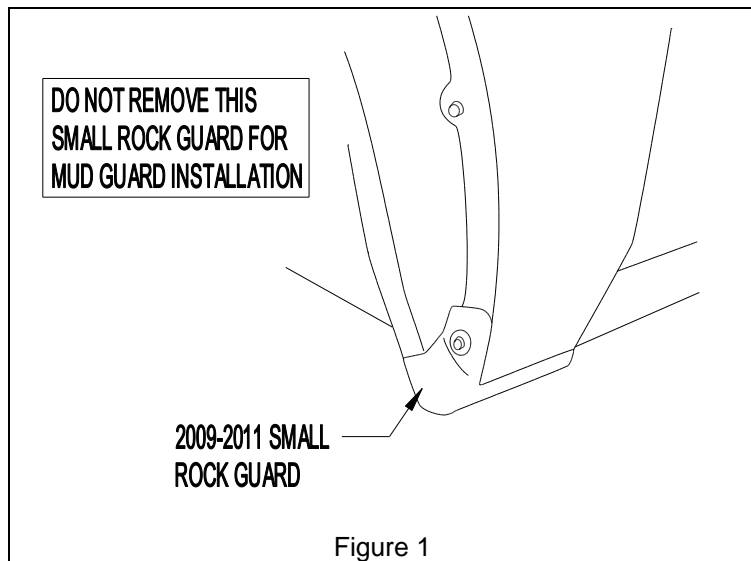
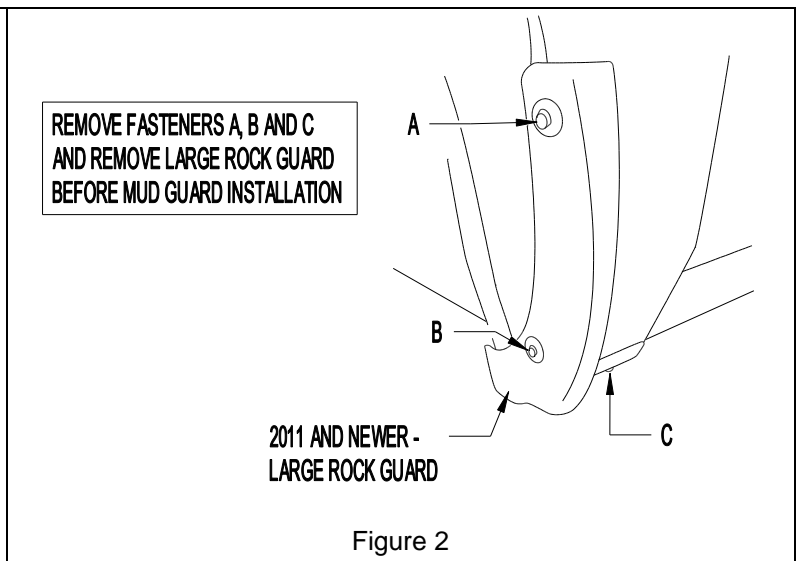

Figure 1
Figure 2
FIGURE 1: If you have the "small rock guard" as shown in Figure 1., simply leave the rock guard in place. Next, follow the paint protection film instructions and then the mud guard installation instructions.
FIGURE 2: If you have a 2011 or newer Dodge Ram with the "large rock guard" as shown in Figure 2, remove fasteners A, B, and C, and remove the "large rock guard" (Figure 3). After removal of the "large rock guard" reinstall fastener C. Then proceed with the paint protection film instructions followed by the mud guard installation instructions.
1. If you have the "large rock" shown in Figure 2, remove the large rock guard before you install the paint protection film. If you have the small rock guard shown in Figure 1, leave the small rock guard in place and proceed with the paint protection film installation as shown.
FIGURE 1: If you have the “small rock guard” as shown in Figure 1., simply leave the rock guard in place. Next, follow the paint protection film instructions and then the mud guard installation instructions.
FIGURE 2: If you have a 2011 or newer Dodge Ram with the “large rock guard” as shown in Figure 2, remove fasteners A, B, C, and D, and remove the “large rock guard” (Figure 3). After removal of the “large rock guard” reinstall fastener C. Then proceed with the paint protection film instructions followed by the mud guard installation instructions.
1. If you have the "large rock" shown in Figure 2, remove the large rock guard before you install the paint protection film as shown in Figure 5. If you have the small rock guard shown in Figure 1, leave the small rock guard in place and proceed with the paint protection film installation as shown in Figure 4.
1. Remove the existing fastener from locations A and B as well as locations C and D if you have the 'Large Rock Guard'. Replace C and D after removal of the "large rock guard" if applicable. Once again, use Figure 4 if you have the "rock guard" in Figure 1 or use Figure 5 if you have the "large rock guard" in Figure 2.